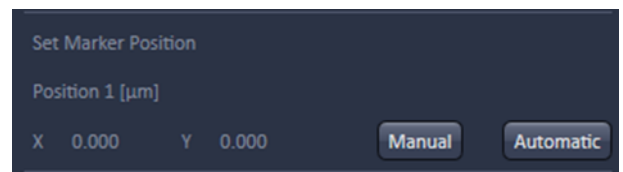

Fig. 180 Position 1 field
- Click **Automatic** in the **Position 1** field (Fig. 180).